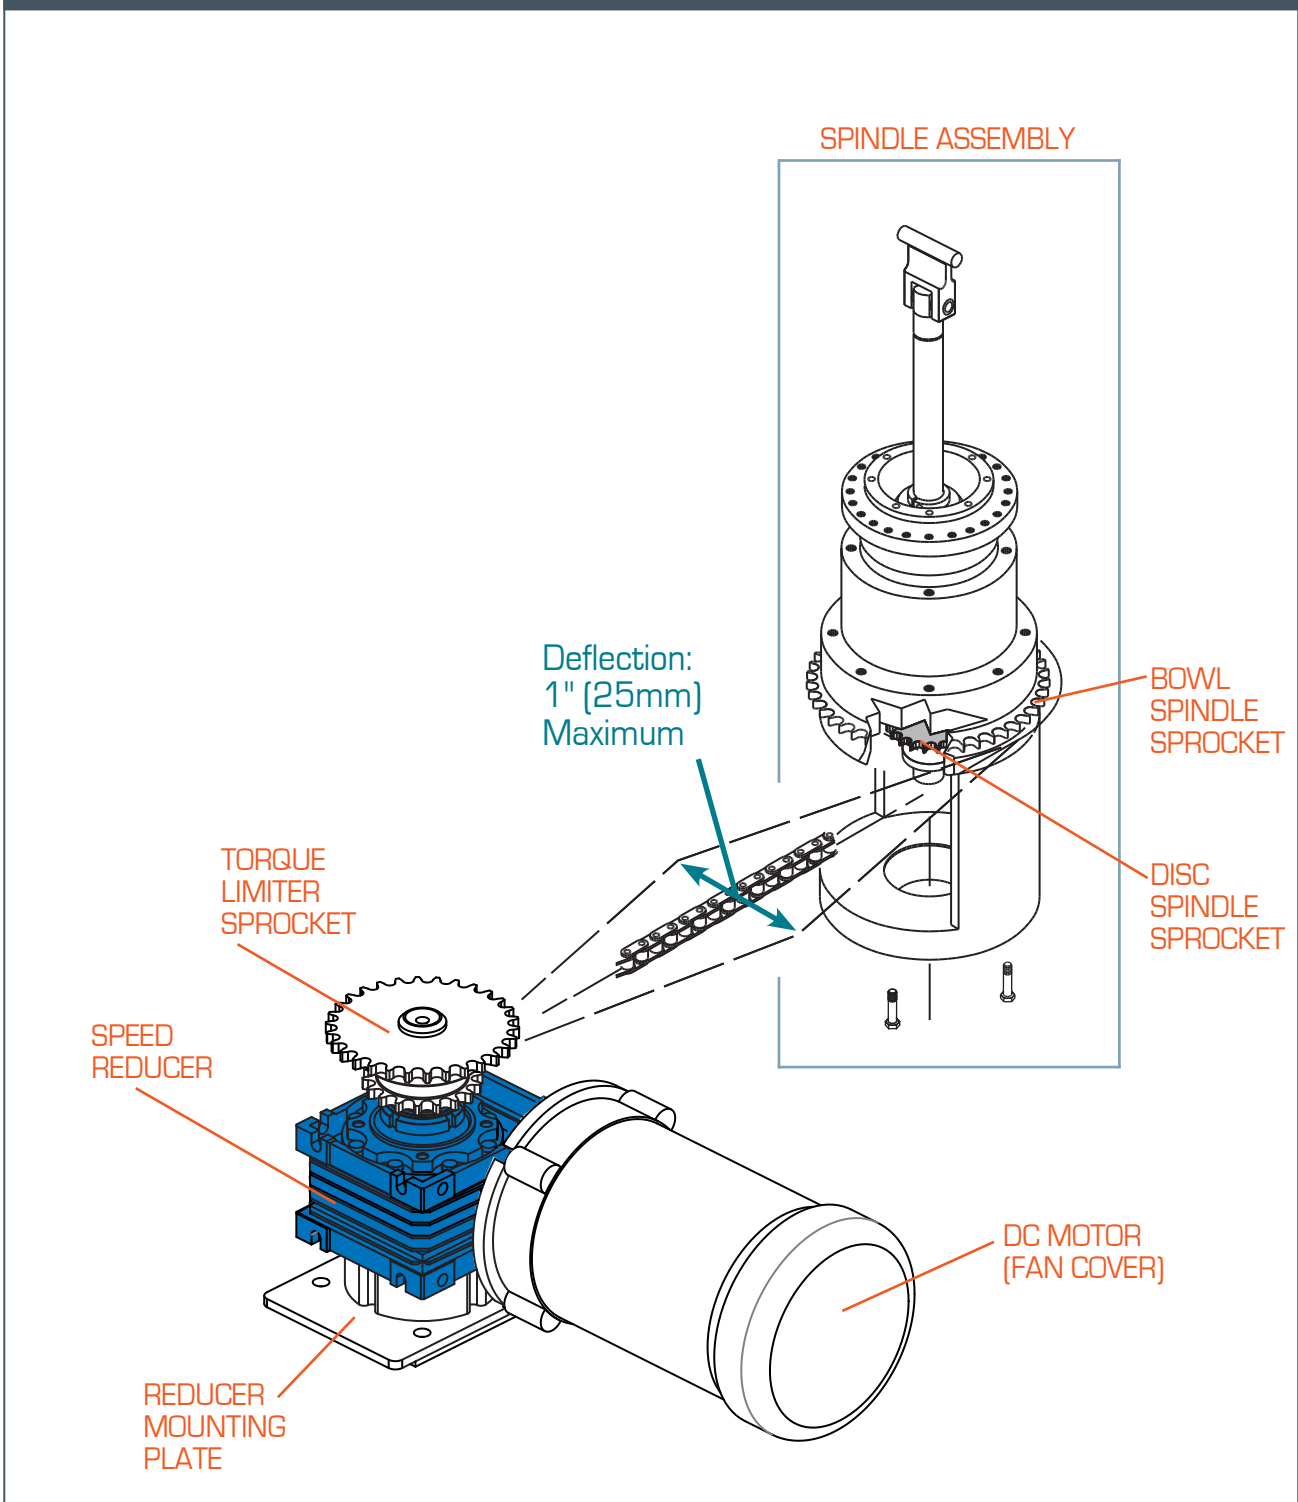

Figure 4-3. Bowl Drive Chain Tension - FT-20/30-RD DC Motor
Step 2—Inspect Drive Chain. Midway between the sprockets, grasp the chain and move it back and forth. You should not be able to move it more than 1" in either direction. If it moves more than 1", adjustment is required (see Figure 4-3.) If an adjustment is needed:
Step 7—Replace Chain and Covers. Install bowl drive chain. Inspect chain tension (refer to Figure 4-3). Replace covers and reconnect power and air.